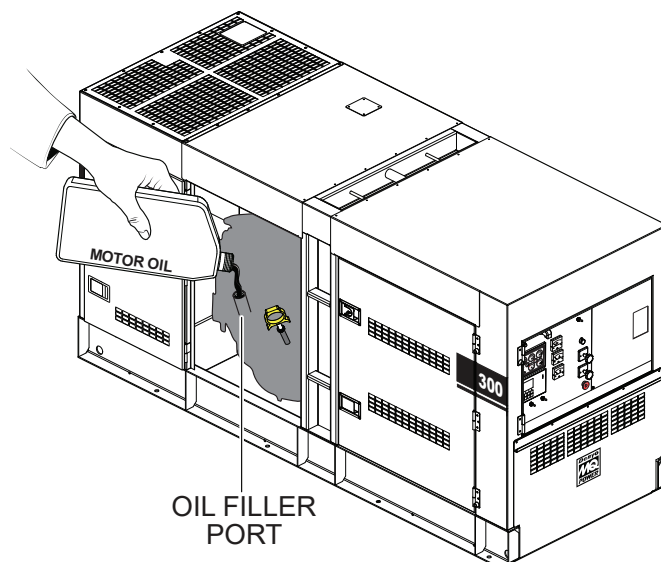

Figure 35. Engine Oil Filler Port
5. If the engine oil level is low (Figure 34C), remove the cap from the oil filler port (Figure 35) and fill to a safe operating level (max) as indicated by the dipstick (Figure 34A). Fill with the recommended oil type as listed in Table 10. Maximum oil capacity is 9.3 gallons (35 liters).